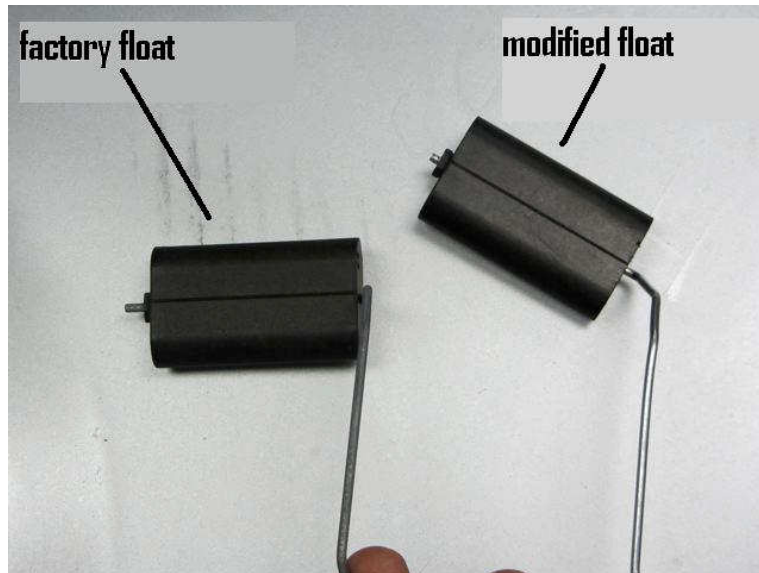

FIGURE 1-1
9. Before placing the fuel pump assembly in the fuel tank, bend the float arm approx. 30-degrees. This allows the float to clear the internal baffling. Use **Figure 1-1** for reference.